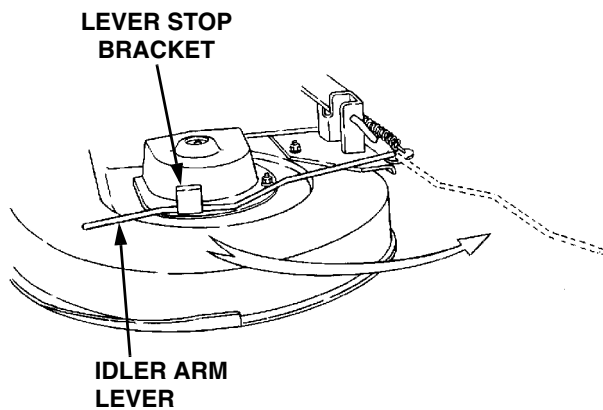

Figure 35
2. Lower the tractor implement lift handle to its lowest setting (adjust gauge wheels if necessary). Disengage the deck idler arm lever from its stop bracket and release the spring tension by rotating the lever out and rearward (See Figure 35).